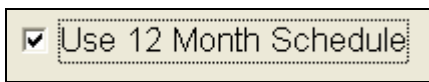

Figure 16.4.8A
- Click on the **Use 12 Month Schedule** if you want to set up an irrigation program for each month of the year (Figure 16.4.8A).